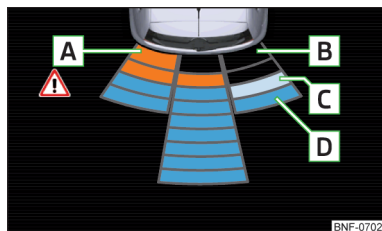

Fig. 96
Screen display » Fig. 96
- A** An obstacle appearing in the collision zone is shown as an orange-coloured segment » Fig. 96. **!** Stop moving in the direction of the obstacle!
- Through touching the screen of the multifunction device » Fig. 96 with the fingers.